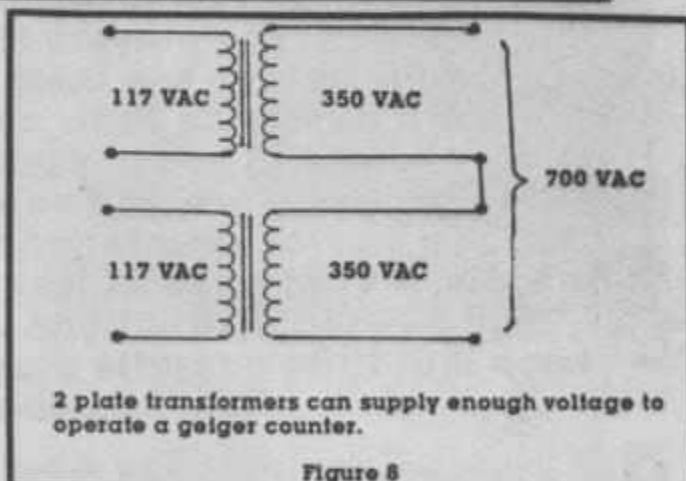

Figure 8
High voltage power supplies can also be built by combining the high-voltage windings of radio transformers. They can be used to light up burnt out fluorescent light tubes that still hold gas (add choke). After rectification they can be used as Geiger counter power supplies: (Figure 8)
**Figure 8:** You may find only one or two IC's in a portable cassette player. Either one or both channels may be distorted or weak when one IC is used as the output amp.